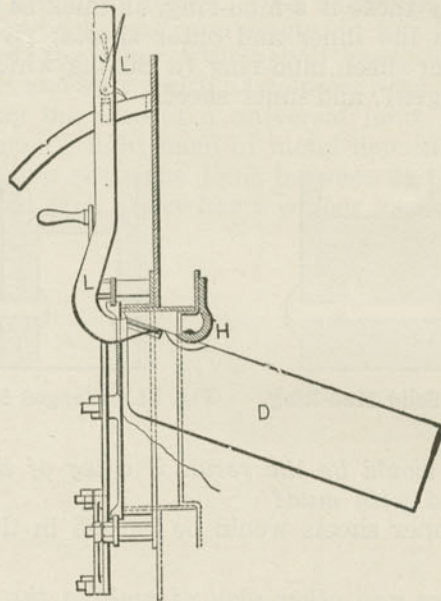

Fig. 55. Hudson Furnace-door Deflector.
*A. It is shown in Figs. 55 and 56. D is a deflector hung from a hook H attached to the fire-box over the door; a lever L is fastened to the deflector, by which to move it out of the way when coal is thrown on. The deflector position is regulated by the lever and a latch L at its upper end. A pair of sliding doors is usually employed.*